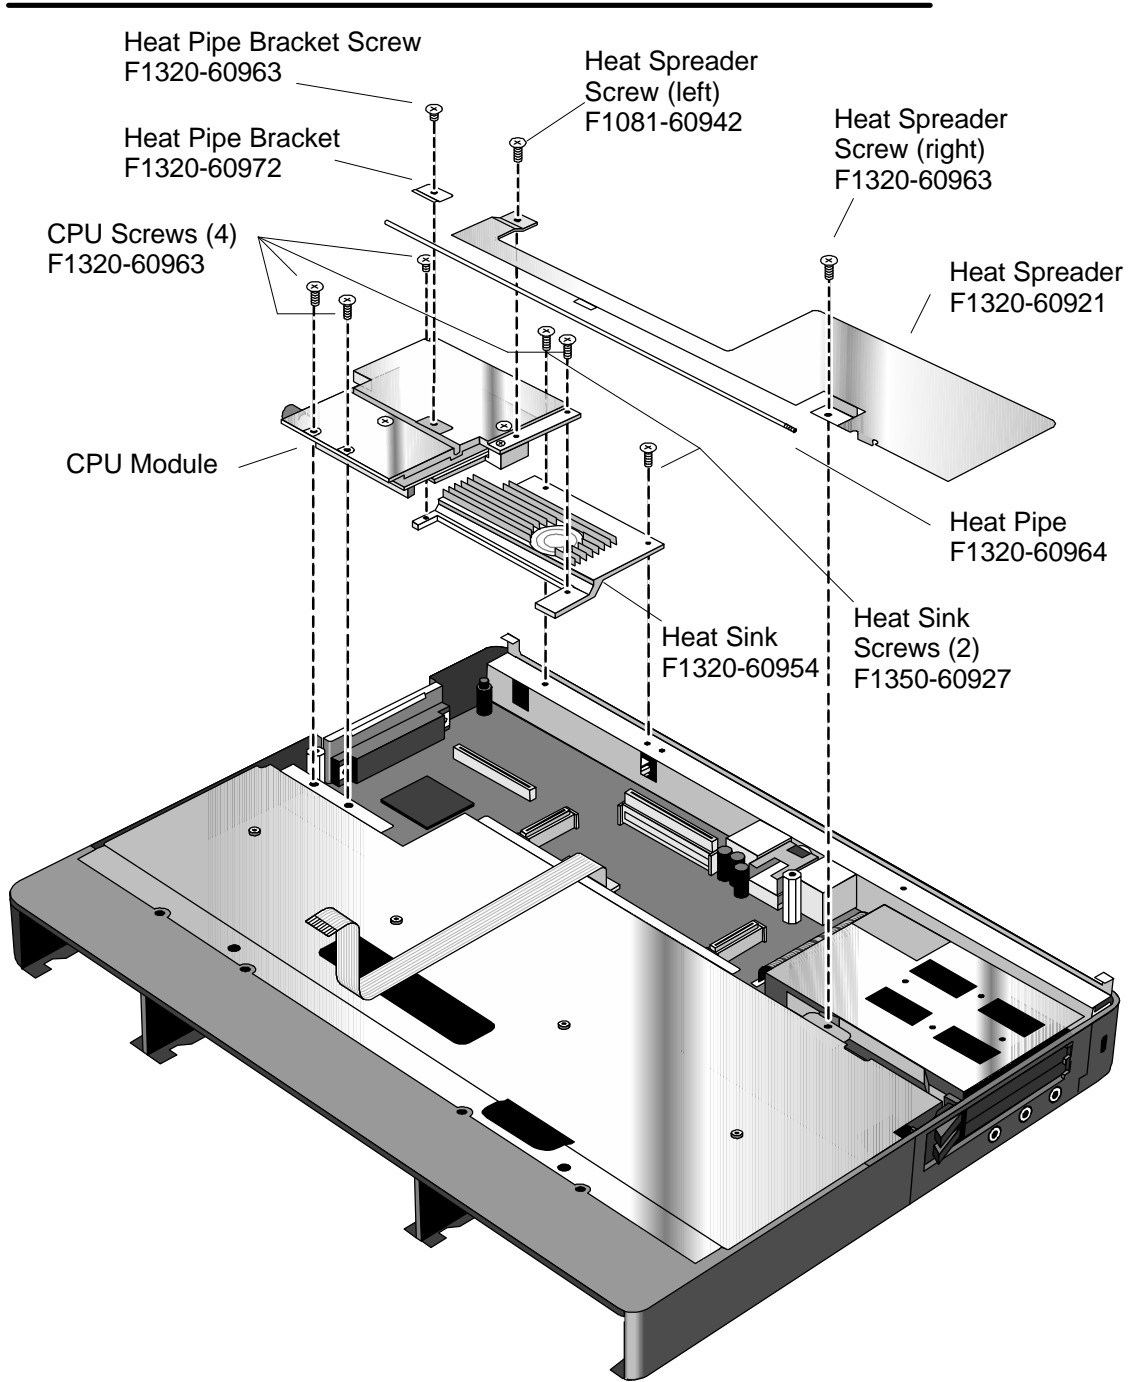

Figure 38 - CPU and Heat Spreader Removal (OB5500 only)
- 1) Remove the two Heat Spreader Screws and lift away the Heat Spreader. Refer to Figure 38 on page 84.